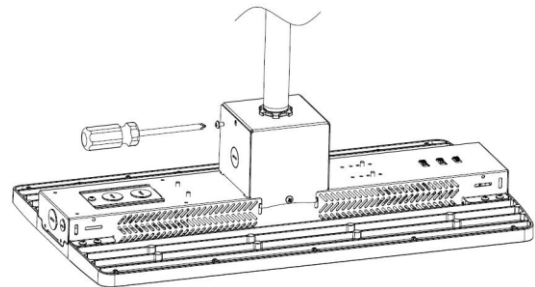

FIG. 9
- 4 Secure the side plates. (Figure 9)